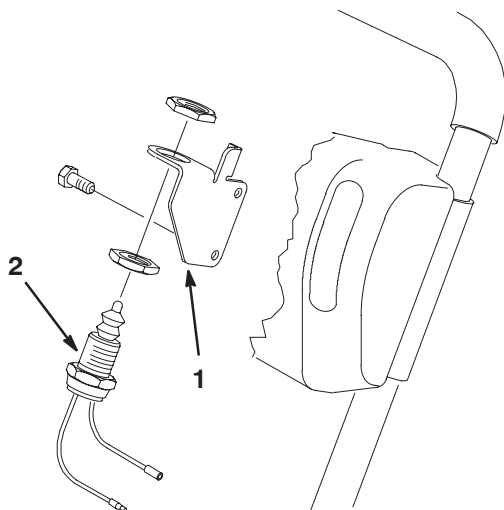

Figure 2
2. Mount switch bracket to console bracket and handle with (2) screws removed (Fig. 2).